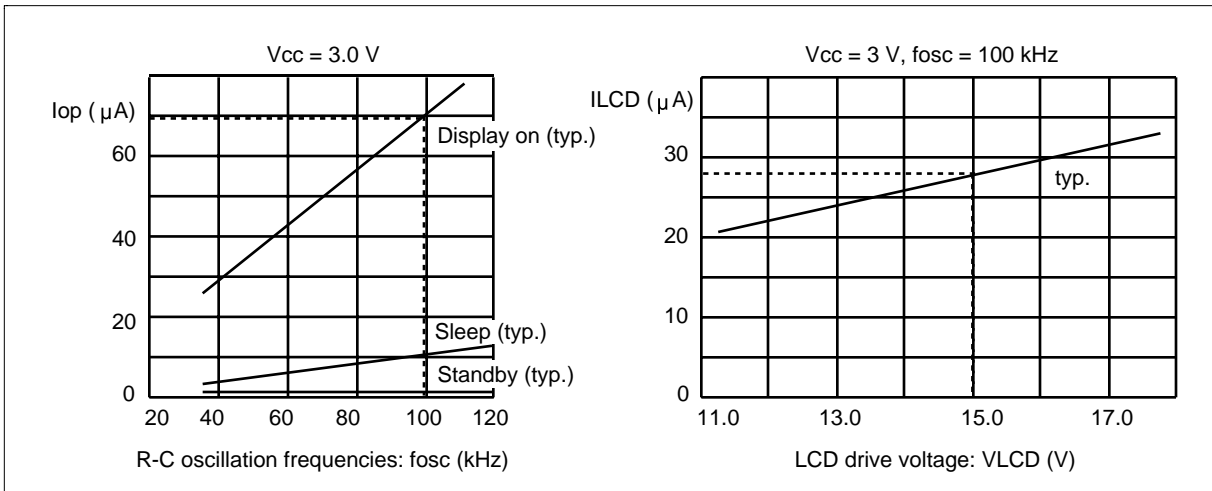

Figure 51 Relationship between the Operation Frequency and Current Consumption
7. The following shows the relationship between the operation frequency (fosc) and current consumption (Icc) (figure 51).